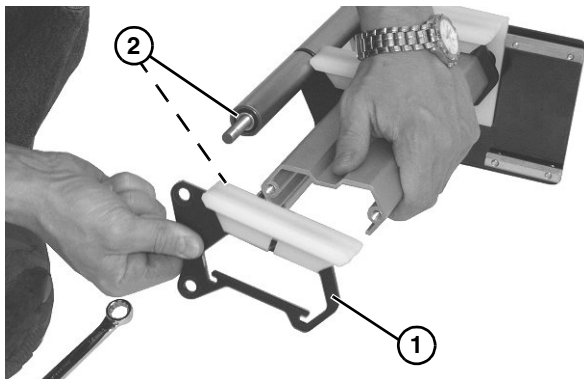

**Figure 44**
5. Remove upper nut (**Figure 44, item 1**) and spacer from end of axle shaft assembly.
6. Remove lower nut (**Figure 44, item 2**) and spacer from lower axle shaft assembly.